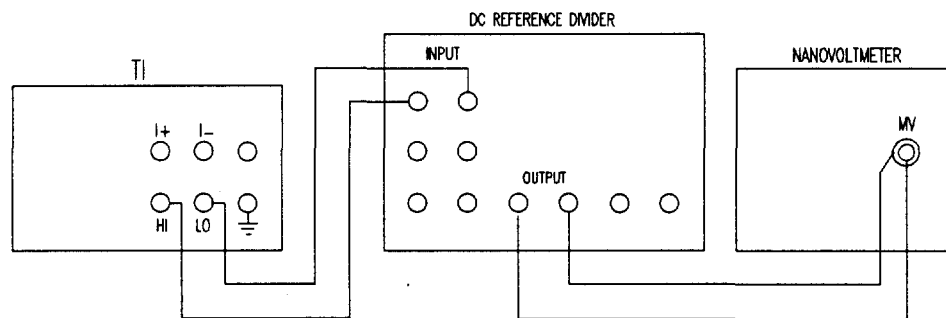

Figure 4.
4.2.45 Connect the equipment as shown in Figure 4.